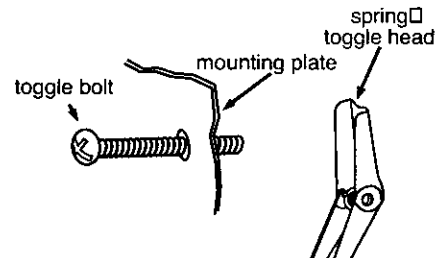

Figure 27 □ □ □
2. Prepare the toggle bolts by putting the bolts through the corner holes and attaching a spring toggle head to the end of each toggle bolt as shown in Figure 27.